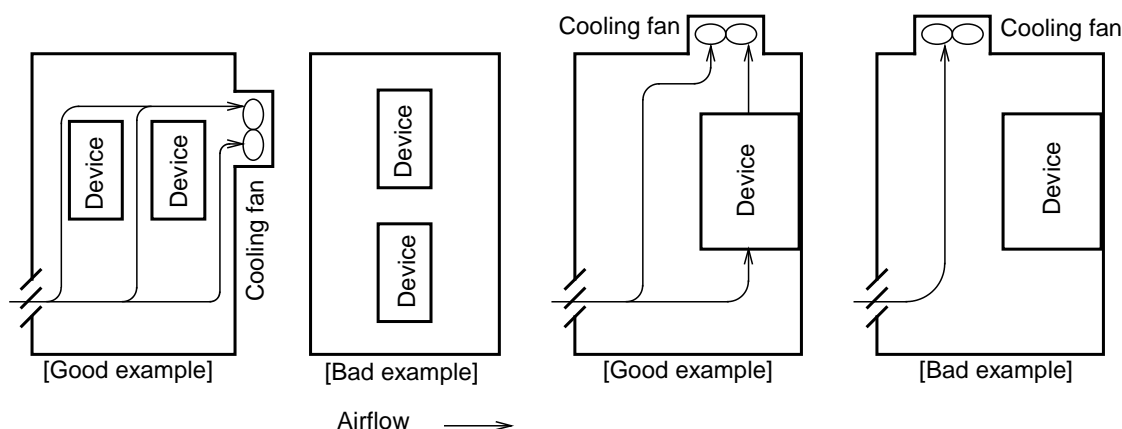

Figure 2-1 Alignment example when storing plural devices
- (1) As for the ambient conditions of the device, refer to "12-1-2 General specifications".
- (2) The device lifetime has a close relation with the temperature in use, and a use under the high temperature and high humidity environment may shorten the device lifetime. Generally it is said that an increase of 10°C in temperature can shorten the lifetime of equipment to half.
- (3) For the temperature inside the storage control panel, consider the surrounding temperature and the temperature increase due to a loss in this device and in the equipment inside the panel. Be sure to keep the surrounding temperature of the device within the permissible range. For the calorific value of this device due to loss, refer to "12-1-5 Device electrical specification".
- (4) As the device is equipped with a fan to cool the radiator, secure an opening not to block airflow. When storing plural devices, align them so that ventilation does not influence each other. (Refer to Figure 2-1.)
- (5) If there are nearby heating elements and vibrating sources, prepare an appropriate construction against the influence.
- (6) Do not install the product in a place of high temperature and high humidity or in places where excessive dust particles, metal powder, and cloud of steam exist, and in an environment where corrosive gas exists.
- (7) If there is a noise generation source, reinforce the grounding treatment to avoid mixture of induction noises. Depending on the using conditions, a noise filter may be required. Conduct the noise prevention measures, referring to "3-6 Noise protection".